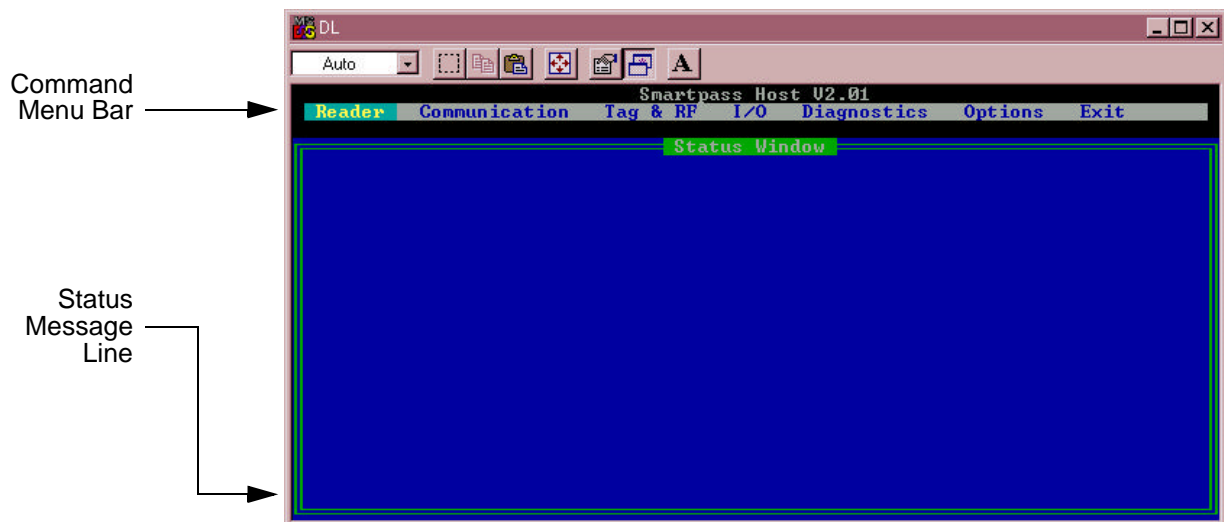

Figure 4-3 Status Window
3. Start SmartPass Host by performing one of the following. This displays the SmartPass Host status window, shown in Figure 4-3.